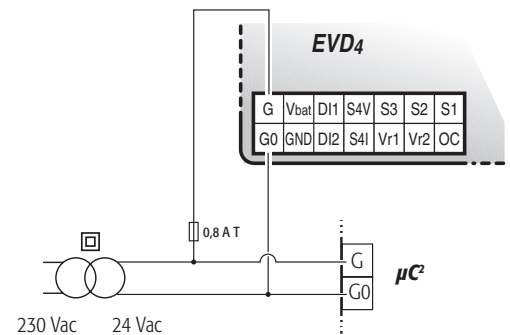

Fig. 3.3
- Power supply: with reference to Fig. 3.3, connect G and G0 to the 24 Vac power supply side; to connect an auxiliary battery see the EVD⁴ Instruction Sheet.